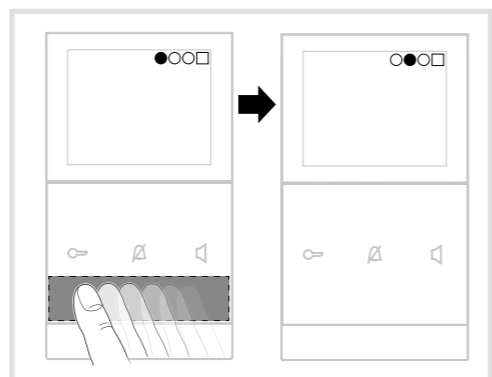

Figure 3: Menu page change
The menu consists of 4 to 6 pages depending on the activated special functions and service functions. You access and toggle with the menu slider (10) by swiping your finger horizontally on the touch-sensitive surface (Figure 3).